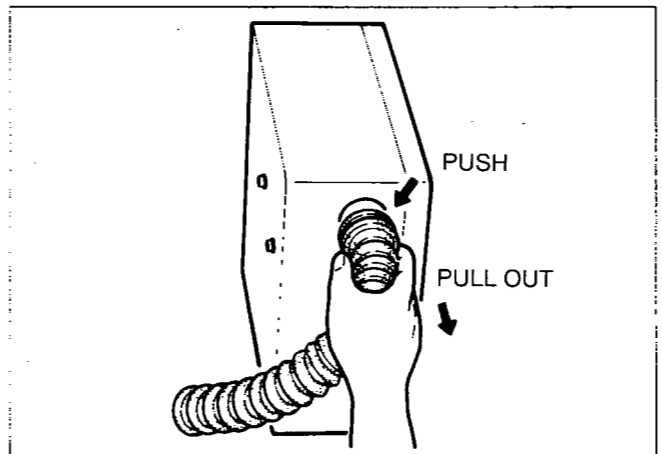

Fig. 10-6
<p>(5) Take off the bushing from the bottom of the control box. (See Fig. 10-6.)</p>	Press the upper end of the bushing and pull out.